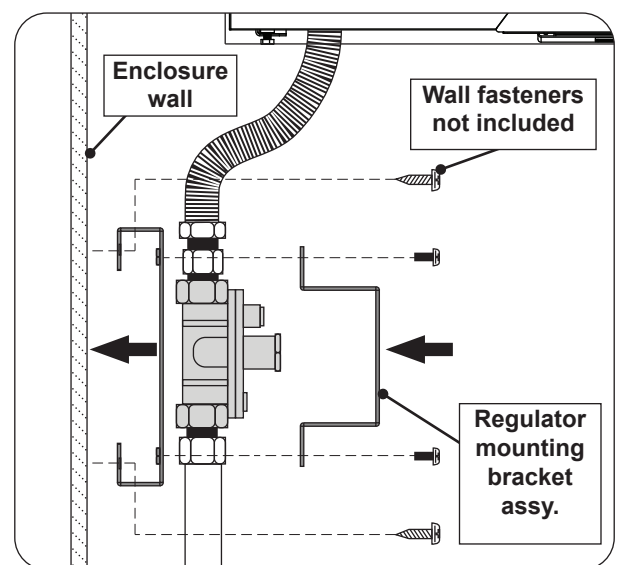

Fig. 25-2 Mount regulator to enclosure wall
4. If the gas connections are not rigid and are unable to hold the regulator in a secure manner, use the provided regulator mounting bracket assembly to fasten the regulator securely to the enclosure inner wall. See Fig. 25-2.